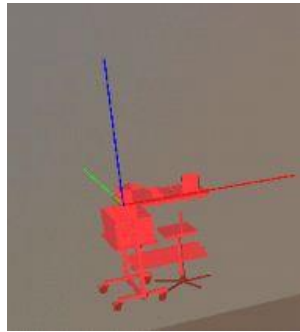
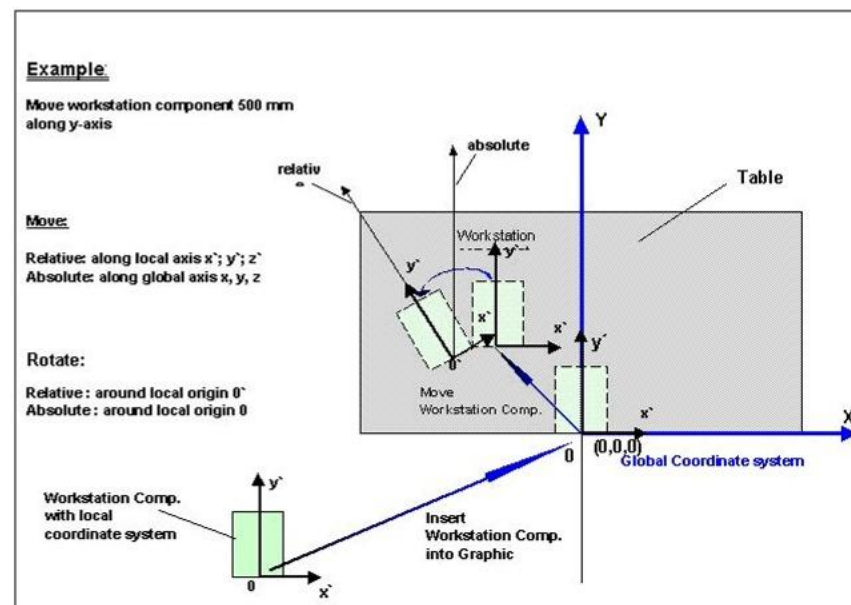

Figure 45: Example for a Coordinate System: Selected Graphic Object
Figure 47: Example for Coordinates: Absolute/Relative
Using the Translate function, objects can be translated into a graphic. Graphic objects can be moved in the **absolute** as well as in the **relative** mode. In the absolute mode, objects are moved in the so called global coordinate system (coordinate system of the open graphic) and in relative mode in the local coordinate system of a selected graphic object. Please refer to the Figure 47.
- 7) If you select the relative coordinate system, the graphic object is translated along its own coordinates. *Please refer to the Figure 45, Figure 46, and Figure 47*.